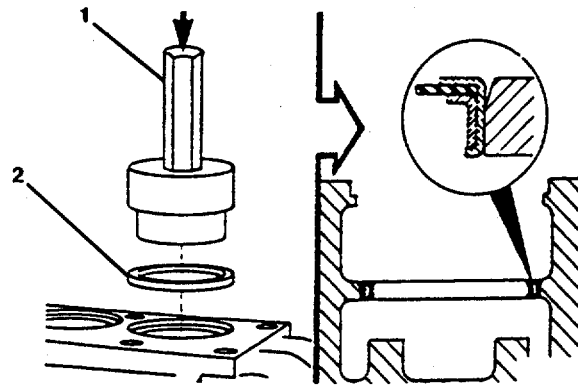

FIGURE 2-14. Thermostat Seal Replacement.
- (1) Install new seal (2, FIG. 2-14) using a seal mandrel (1). Install the seal even with but to no more than 0.020 inch (0.51 mm) below the top of the cast edge.